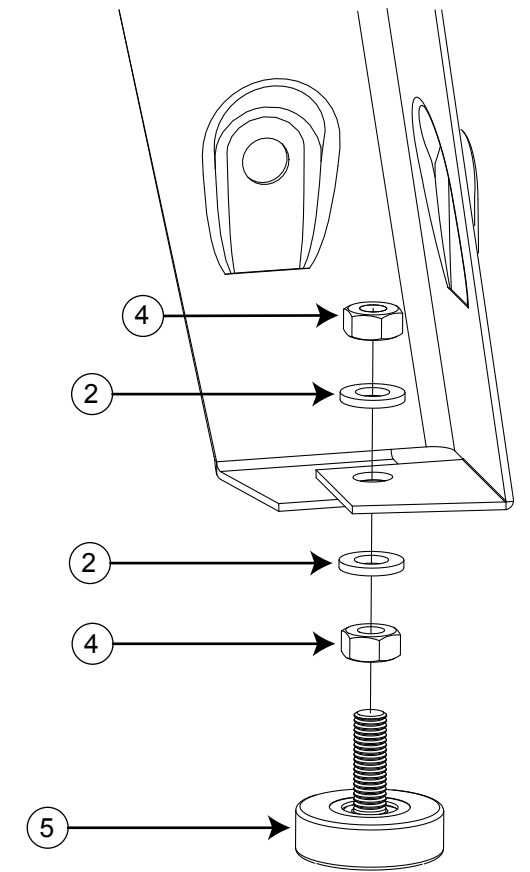

Fig. 9
- Attach a foot to the bottom of each leg as shown in Fig. 9 by threading an M8 hex nut on each foot and then placing an M8 washer over the nut. Insert a foot into the hole at the base of each leg and then place a second M8 washer and thread a second M8 hex nut onto each foot. Do not fully tighten the nuts. The stand is now fully assembled.